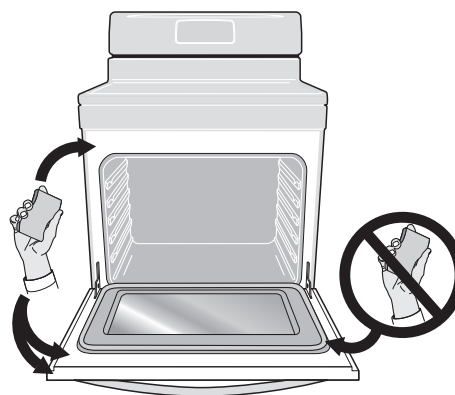

Figure 13: Areas to clean and to avoid
- Do not use oven cleaners or oven protective coatings in or around any part of the oven interior. Clean any soil from the oven frame, the door liner outside the oven door gasket, and the small area at the front center of the oven bottom (See Figure 13). These areas heat sufficiently to burn soil on. Clean using soap and water prior to starting Self Clean.